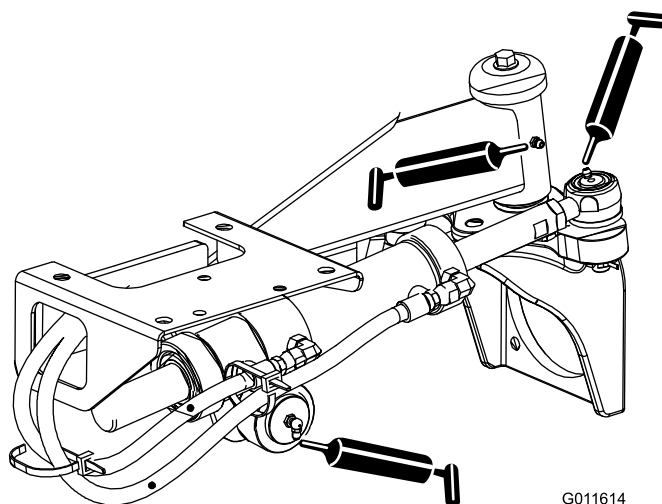

Figure 35
- Steering-cylinder ball joints (2) and rear axle (1) (Figure 35)